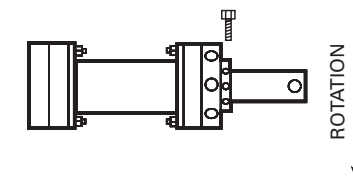

Fig 4
step 8. Carry out any final adjustments to ensure that the cleaner is performing (item 6 - fig 2) and rotate the tensioner and lock in place with set bolts (see fig 4) in the tensioner hub.